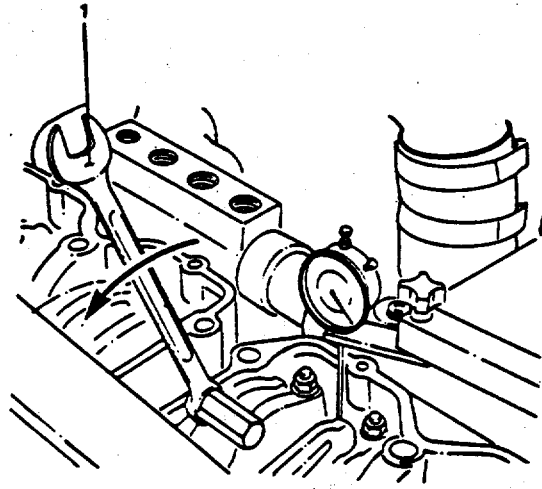

FIGURE 3-23. Rocker Lever Actuator.
- (g) Use the rocker lever actuator (1, FIGURE 3-23) to depress the injector plunger three or four times to make sure all the oil and fuel have been removed from the injector assembly. Allow the lever to return slowly to prevent damage to the dial indicator.